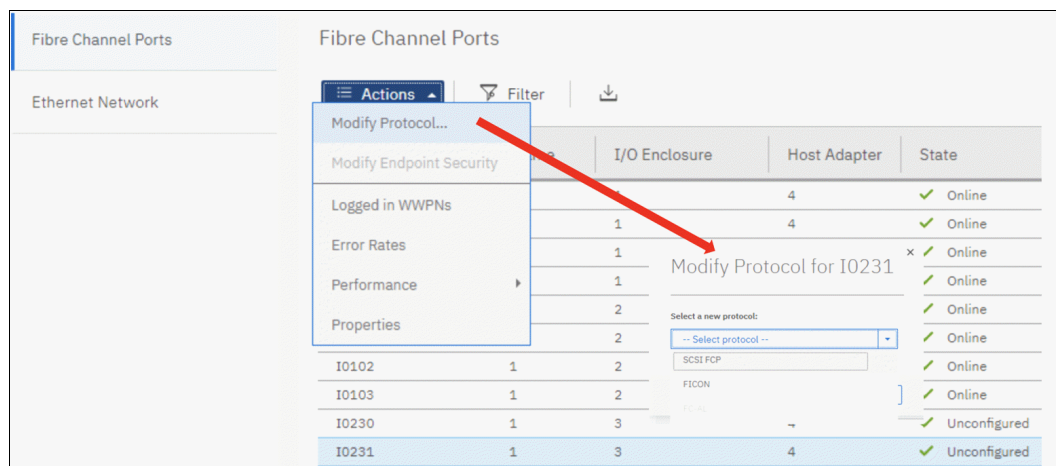

Figure 9-85 Modifying the FC port protocols
4. Click **Modify** to set the topology for the selected FC ports, as shown in Figure 9-85.